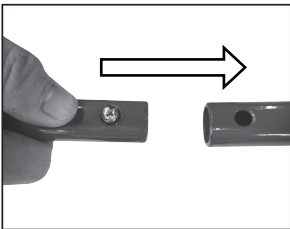

fig 1.
1. Ensuring the locking holes are aligned, insert the Upper Handle into the Lower handle (fig.1).